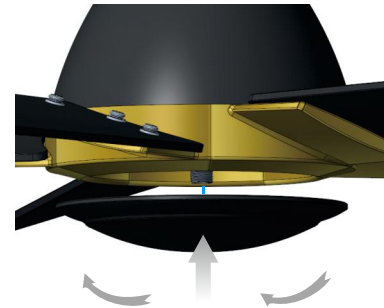

Fig 8.1
8.1 Align the decorative cover slot with the slot of the motor, and turn it clockwise to securely lock into the motor as shown in Fig 8.1.